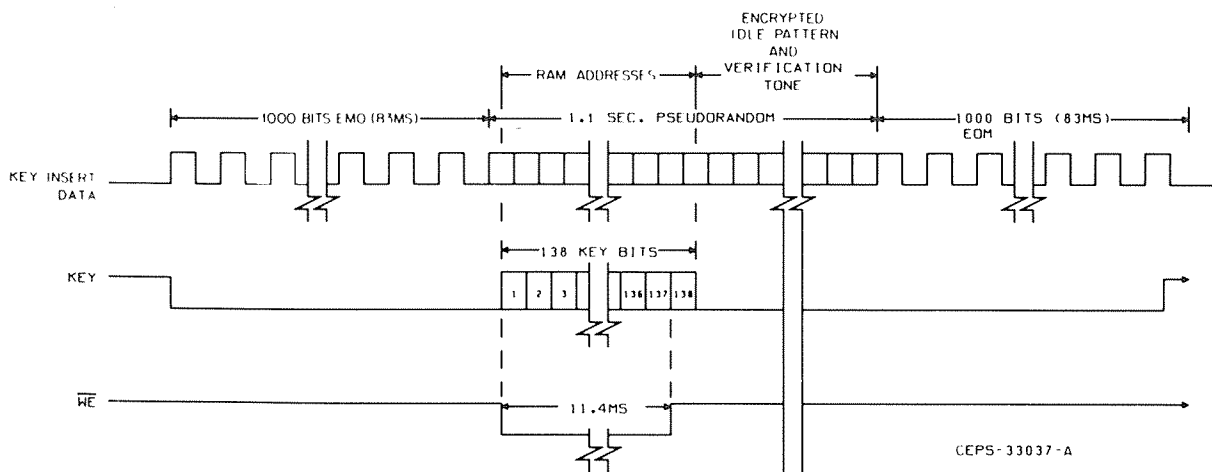

Figure 4. Signaling Scheme for Transfer of Data
3.3.4.2 The signaling scheme for transfer of data to an external radio is shown in Figure 4. When the push-to transfer switch (S301) is depressed, a half clock rate signal (EOM) appears on the KEY INSERT DATA line for 1000 bit clocks. This ensures clock sync in the radio. After 1000 bits, the \overline{WE} line goes logic low for 137 cycles during which key bits are loaded into the encrypt module of the radio. KEY INSERT DATA provides addresses for the key bits. After the \overline{WE} returns to a logic high, 600 cycles of encrypted idle pattern followed by 12000 cycles of verification tone are sent; then 1000 bits of END OF MESSAGE (EOM) are sent to squelch the radio. When the inserter is not executing a load sequence, the KEY, \overline{WE} , and KEY INSERT DATA lines are in a high impedance state.